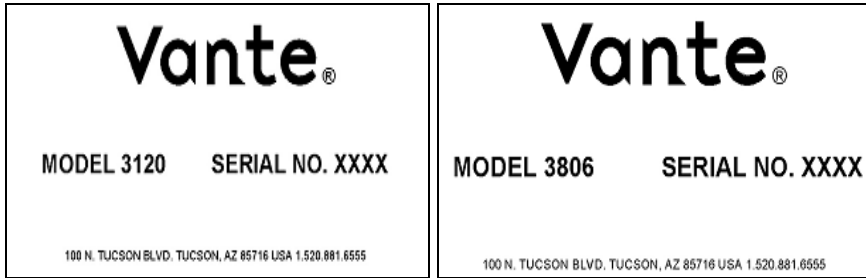

Figure 1.3 Serial Plates
- 1.6.2 Figure 1.3 depicts the serial plates which specify the power input requirements for the models. Each unit's serial plate indicates the model number and serial number of the unit.